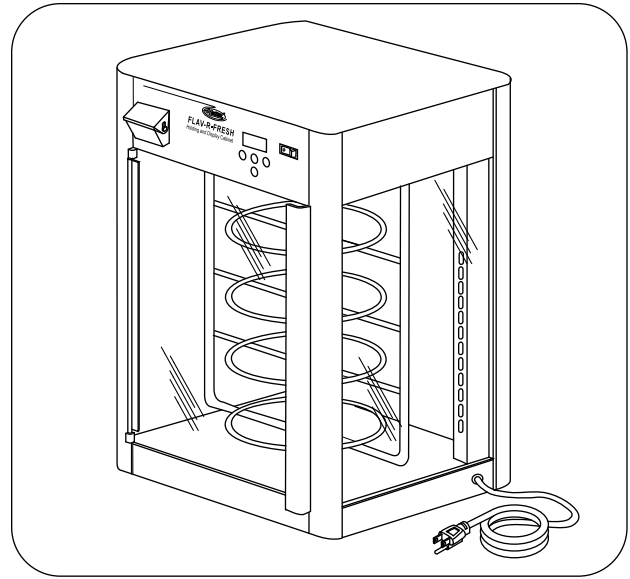

Figure 2. FDWD-1 Model
The Flav-R-Fresh® model FDWD-1 is a **single door** model with a motorized rotating display (see Figure 2.). It comes standard with a pizza rack that holds up to four (4) round pizza pans with a maximum diameter of 15" (381 mm). The rotating rack pauses automatically when the door is opened. An optional rotating pretzel tree or 4-shelf multi-purpose stationary rack is available also.